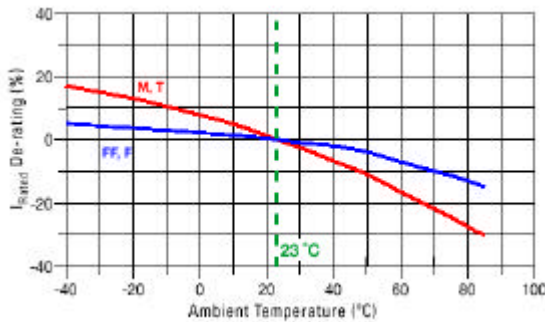

Fig. 2 Derating curves published by Wickmann.
If a fuse is intended to operate at an ambient temperature exceeding the standard 23°C ambient temperature, its operating current should be derated further. Conversely, operating at an ambient temperature lower than the standard allows the operating current to increase. Typical fuse derating curves are shown in Figure 2.
where I_{input_max} is the current determined from (1) or a DC/DC converter datasheet, 0.7 is a derating factor required by safety agencies, and K_{temp} is the temperature derating factor determined from Figure 2. Note, that K_{temp} is less than 1.0 for temperatures exceeding 23°C and more than 1.0 for temperatures lower than 23°C.